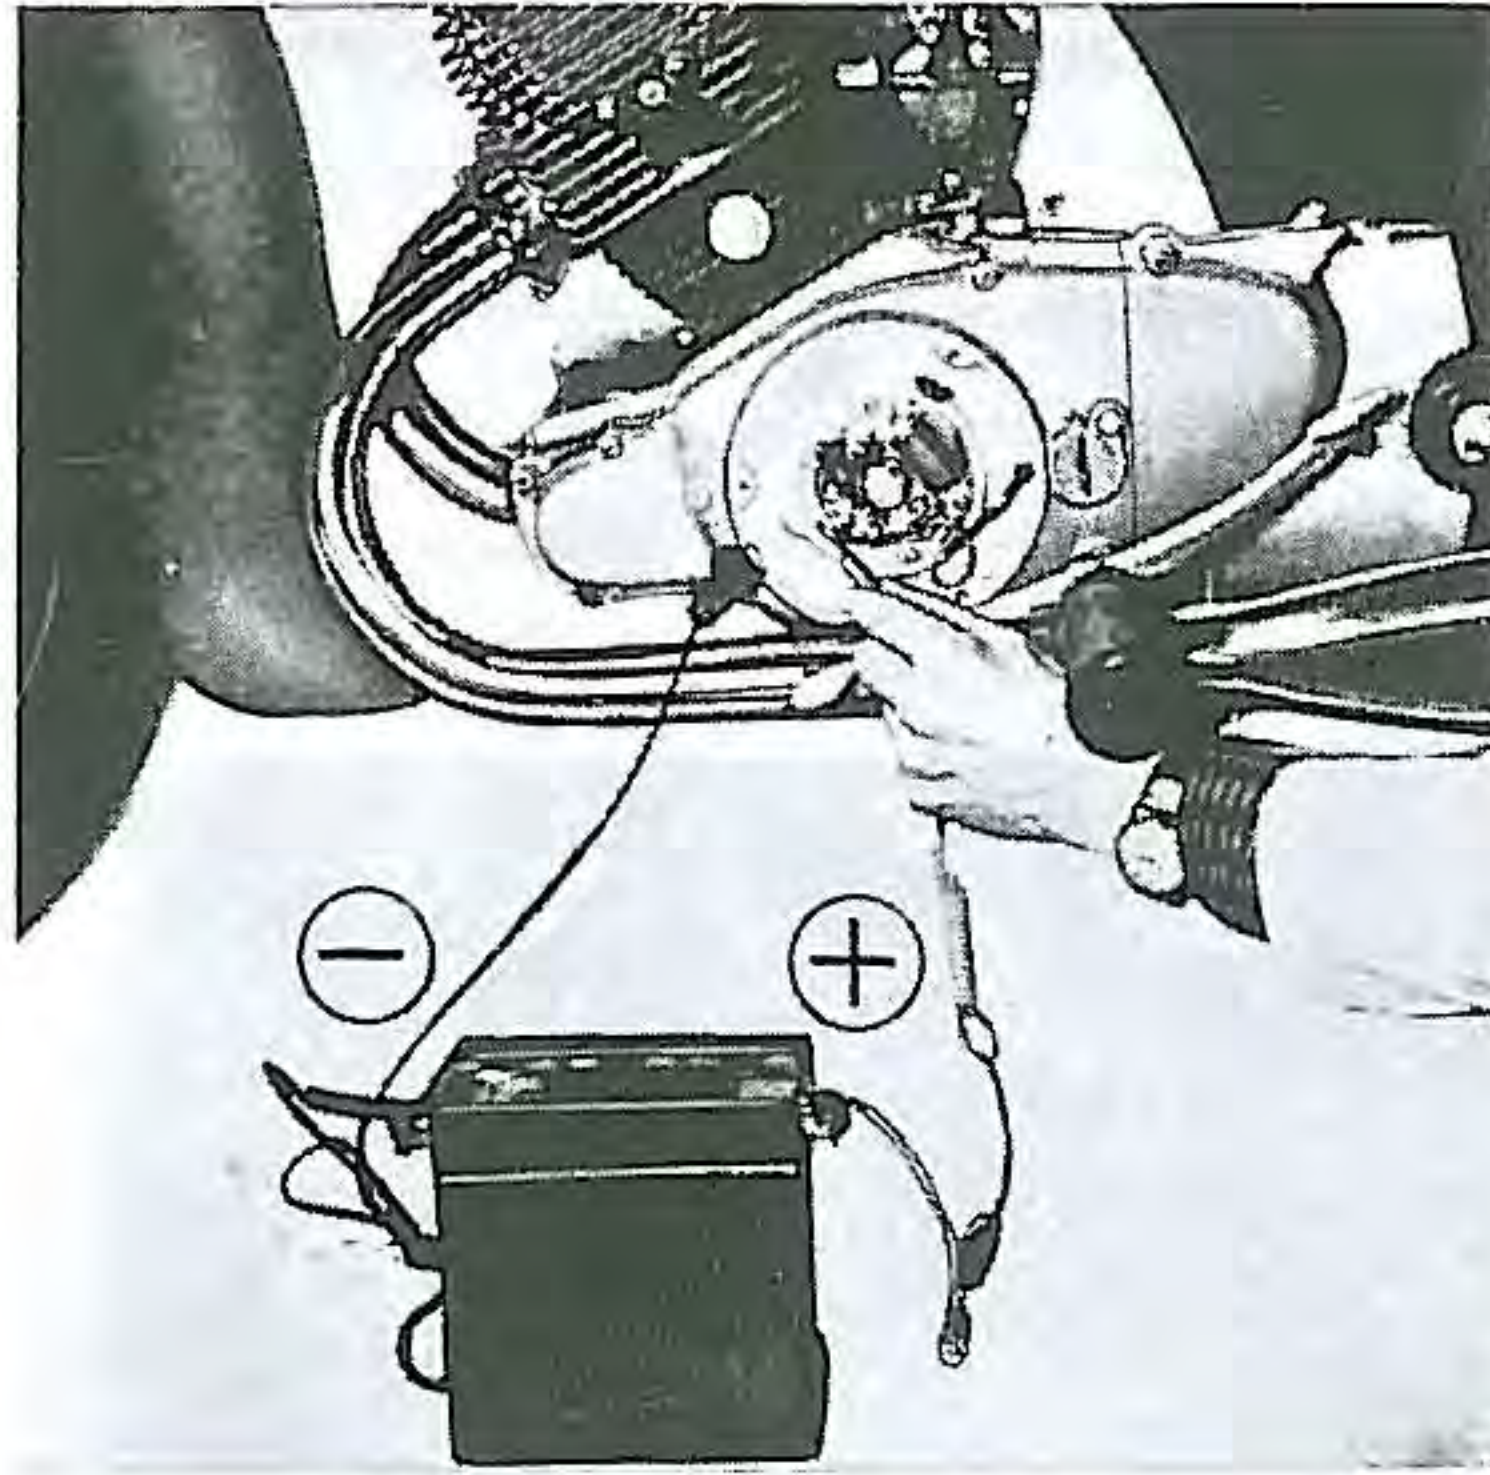

Fig. IV-2. Using miniature lamp 60 V checking timing
- (4) Use a tester or small light to determine the exact instant the points close. (Fig. IV-2)